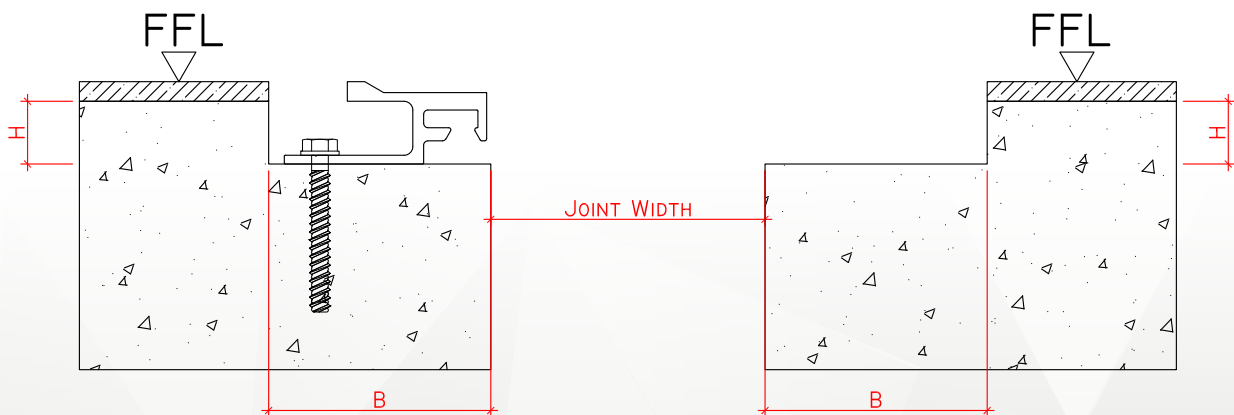

Figure 2.
8. Attach the base member to the concrete using the fasteners (see Figure 2).